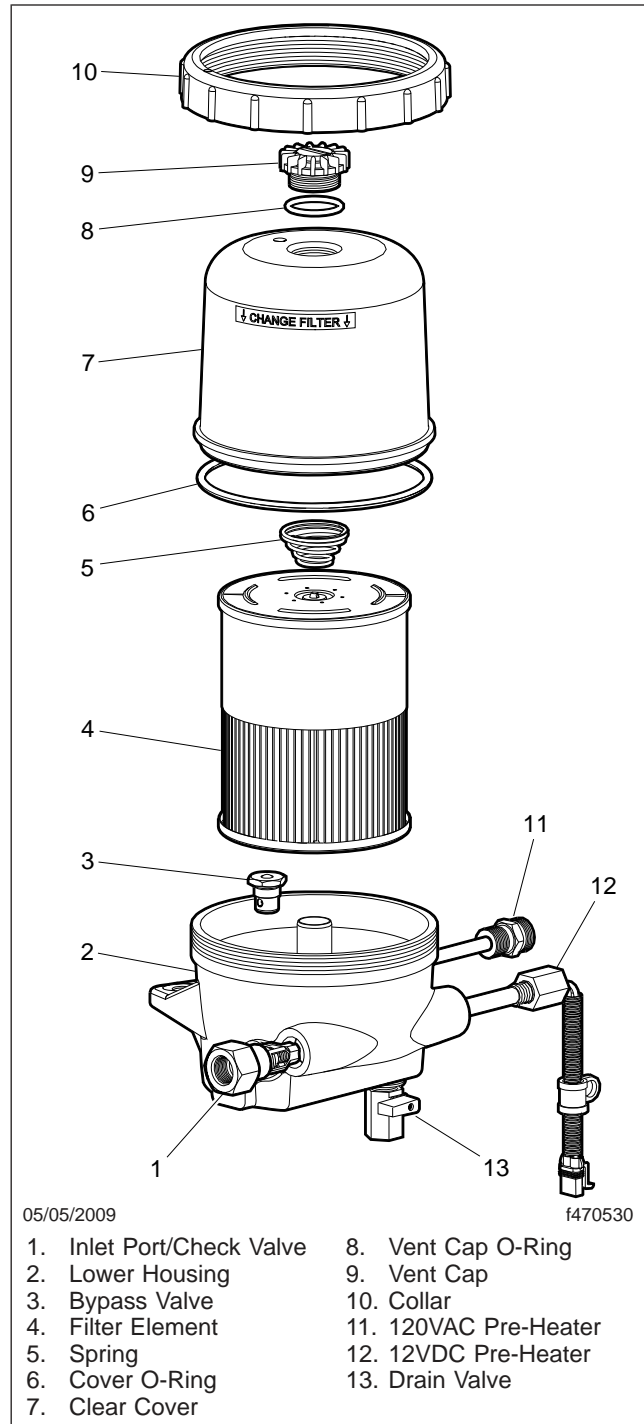

Fig. 21.13, DAVCO Fuel/Water Separator (Fuel Pro 482 shown)
- DAVCO Models:* Remove the vent cap and open the drain. See Fig. 21.13.